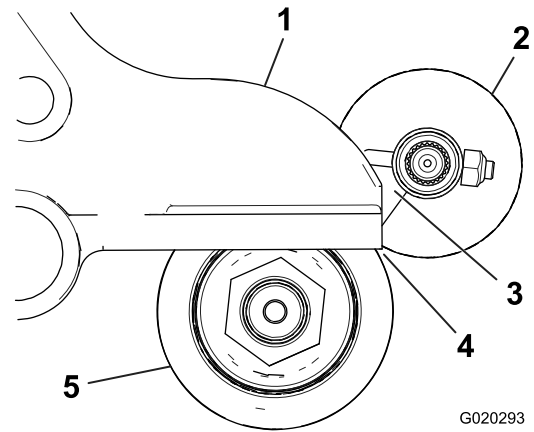

Figure 18
28. Position the roller brush so it is in light contact with (i.e., just touching or resting on) the rear roller (Figure 18).